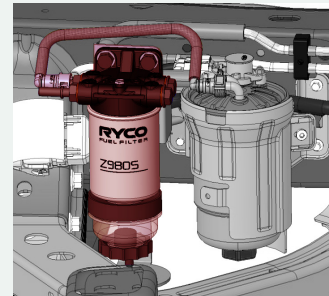

FIGURE 7
- 7 Connect the supplied MF9819A fuel hose to the outlet port fitting of the Z980SK16 (port 1 - inside) and connect the other end to the factory fuel filter inlet port and secure with the locker on. See FIG.7 for fuel hose routing.